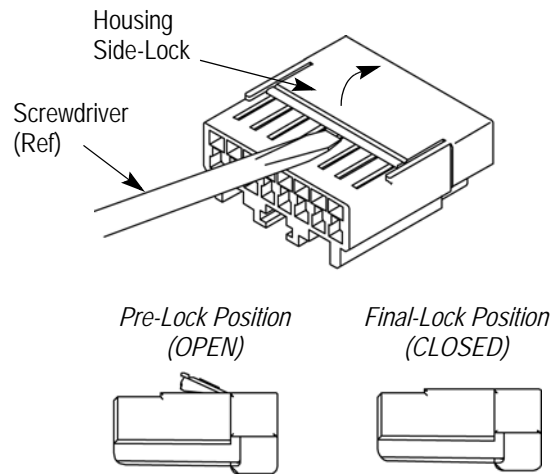

Figure 2
1. If the housing side-lock is not in the pre-lock position (OPEN), open the side-lock as follows: carefully lift the side-lock until it is OPEN (a standard flat-blade screwdriver may be used). Refer to Figure 2.
4. After removing the contact, press the housing side-lock until it is in the final-lock position (CLOSED). Make sure that the side-lock is fully CLOSED. Refer to Figure 2.